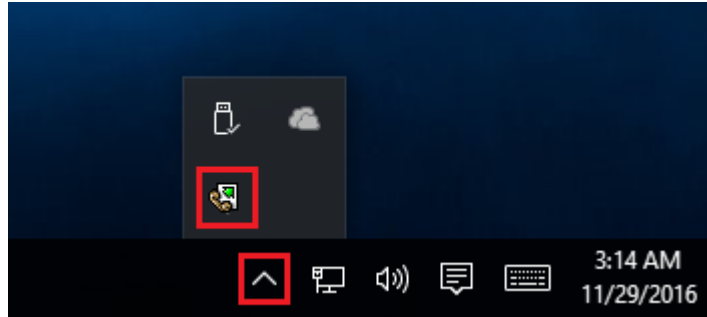

Fig. 6.1.2 Systray - panel near clock
- **Start in minimized state** - at start USB HID Logger will automatically minimize the program window to the taskbar or to the Systray (fig. 6.1.2).